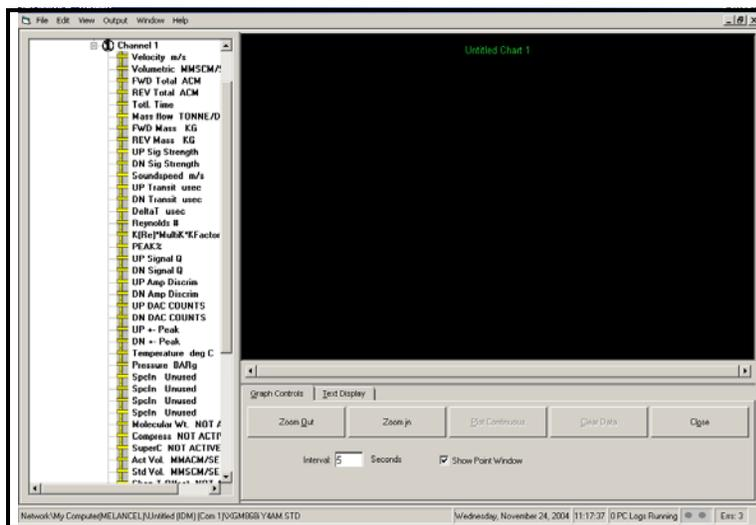

Figure 2-3: The Graph Window
3. Using the *Window* menu, arrange the open windows in the desired format. For this discussion, Figure 2-3 below shows the *Graph* window in its maximized (full-screen) size.